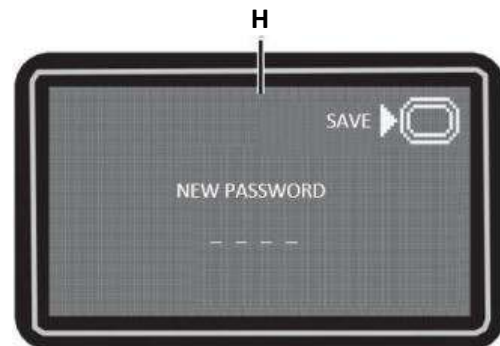

Figure 10
**User Password Management Screen (H, Fig. 10)**